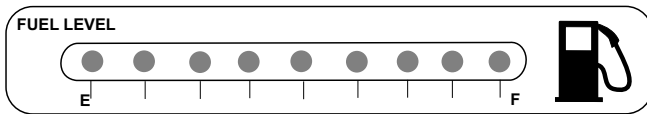

Figure 16. Fuel Gauge
2. Next, read the fuel gauge status LEDs (Figure 16) on the engine status panel and determine if the fuel level is low. Reference Table 6 for LED fuel gauge level indication.